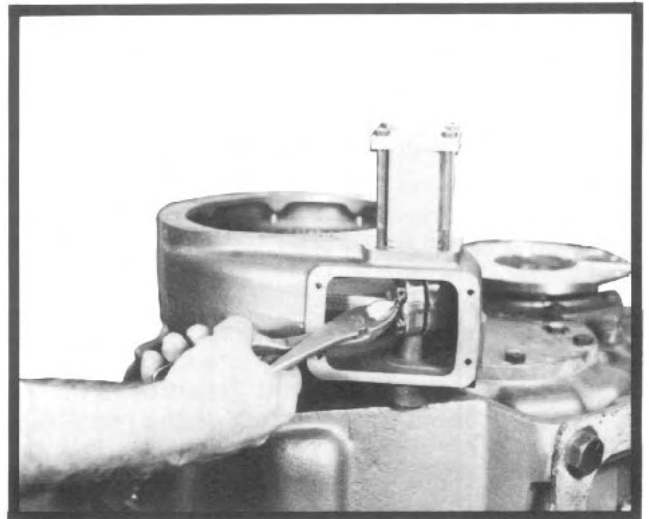

Fig. 2
5. Cut the lockwires and remove the shift fork clamping screws (see fig. 2).